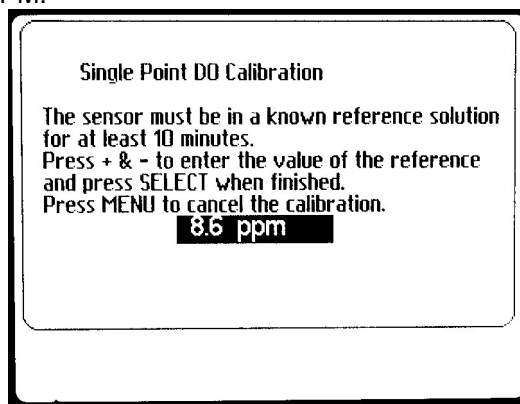

Figure 25 - Single Point D.O. Calibration
4. From the SINGLE POINT D.O. CALIBRATION screen (Figure 25), use the + or – keys to adjust the highlighted value to agree with the known reference solution. If a sodium sulfite solution is being used as a reference, InsitelG recommends entering a value of 0.02 PPM.